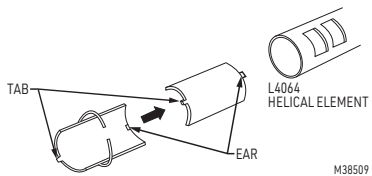

Fig. 4. Using SUPER TRADELINE adapter.
1. Insert one-half of the split steel bushing (Fig. 4), through the wire ring. It may be necessary to spread the ring slightly.